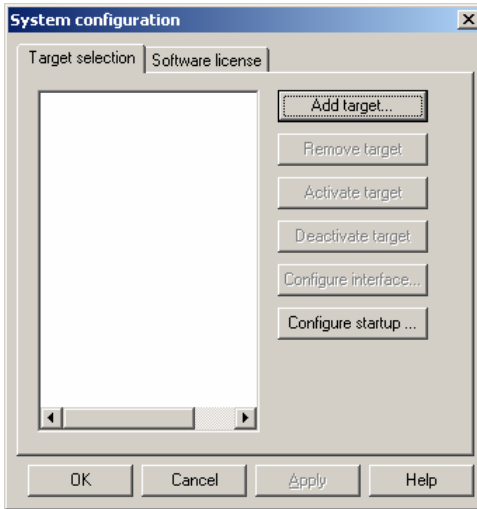

FIGURE 4 Dialog box for defining a new target CPU in Chameleon.
3. Complete the installation process, start Chameleon and click the **Add target** button in the **System Configuration** window. See Figure 4.